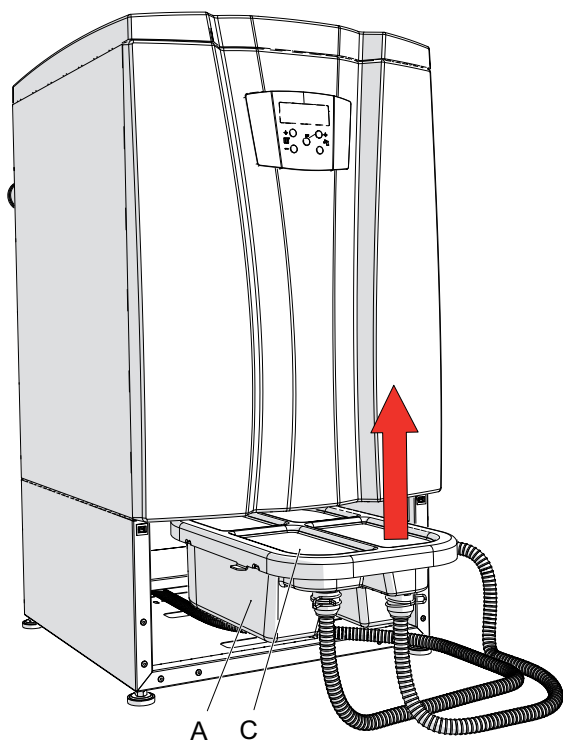

Figure 15-11 Condensate trap and neutralizing box removing
3. open cover "C" (Figure 15-11) in the upper direction;